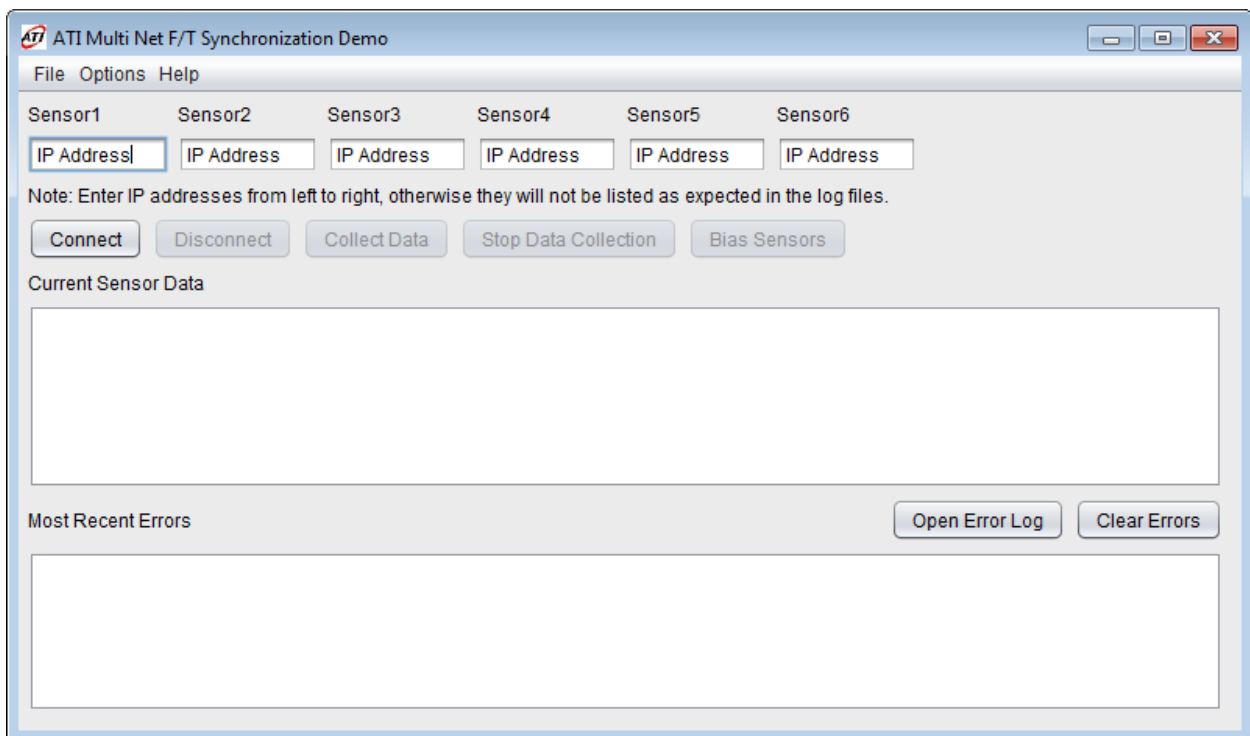

Figure 1
2. Main Window- Running the ATI Multi Net F/T Synchronization Demo will open the main window as seen in **Figure 1**.